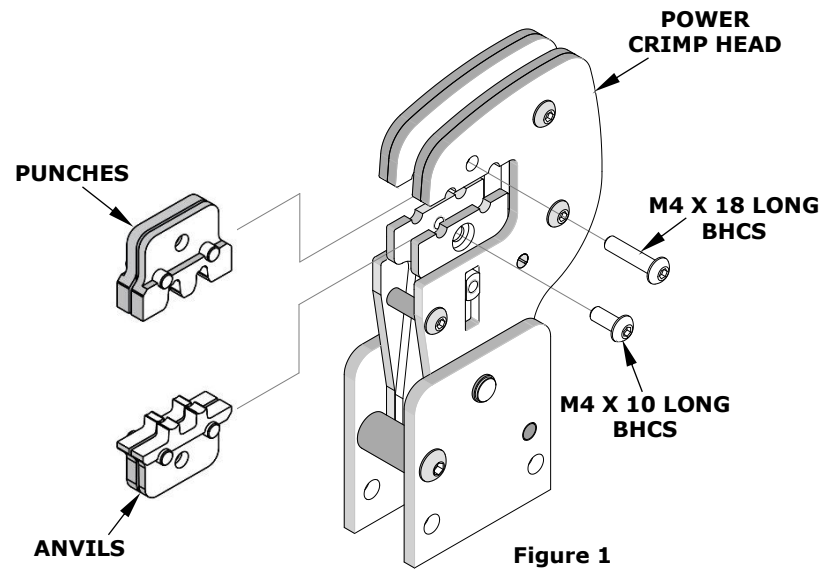

Figure 1
2. Insert the punches into the top slots of the nest. Install the M4 x 18 long BHCS and tighten in place. See Figure 1.
3. Press down on the wire stop on the locator as shown in Figure 1. Insert the proper terminal into the proper nest opening. When choosing the nest opening, make sure it will correspond with the 16 or 18 profile on the hand tool.